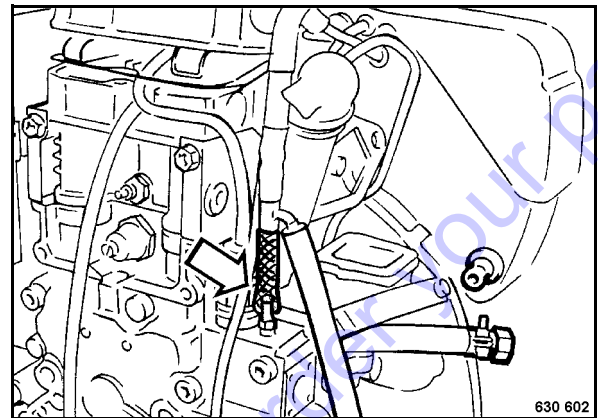

Fig. 77
- Pull the fuel hose off the leakage socket on the pump (Fig. 77).